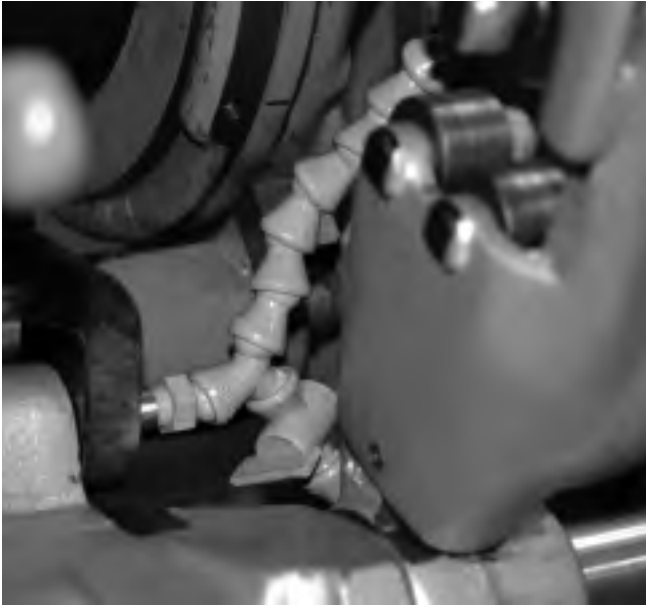

Figure 16A – 141 Geared Threader Close-Coupled To New-Style 535 using Drive Link. Note Oil Spout Attached To Link.
9. Attach multiposition oil spout to drive link (*Figure 16A and 16B*).